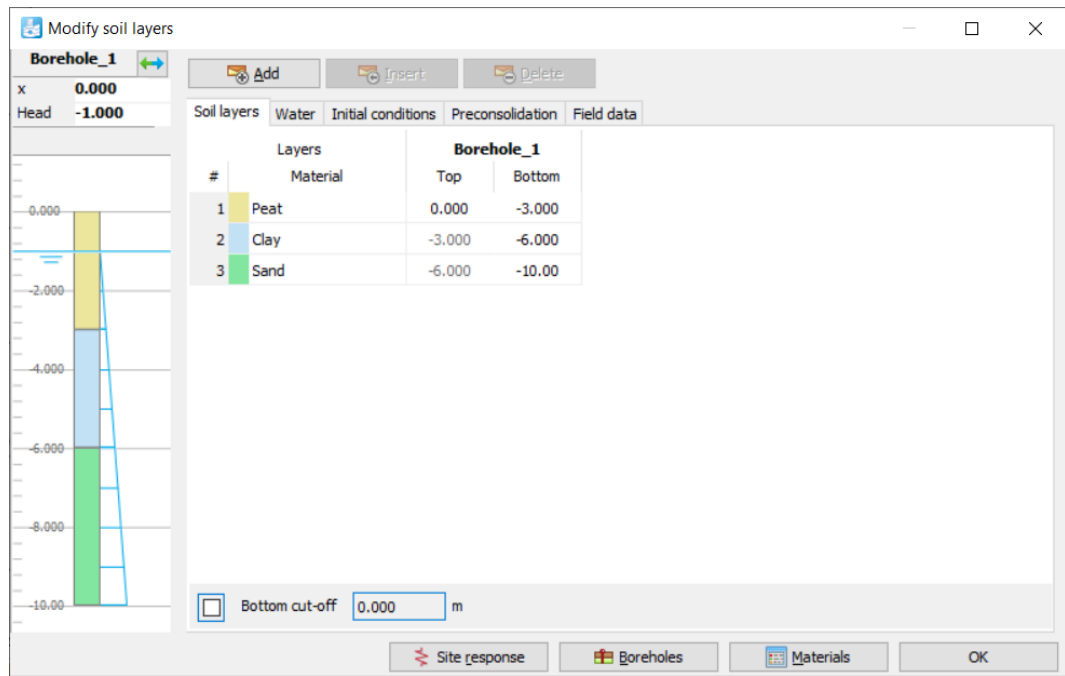

Figure 9-2: Soil layer distribution
The **Modify soil layers** window pops up as shown in Figure 9-2 \(p. 147\).
- 2 Create soil material data sets according to Table 9-1 \(p. 147\) and assign them to the corresponding layers in the borehole (see Figure 9-2 \(p. 147\)).